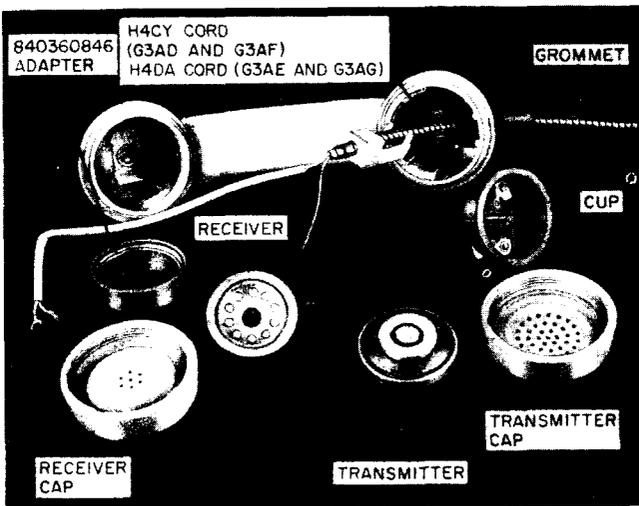

Fig. 5—G3AD, G3AE, G3AF, and G3AG Handsets
**Note 1:** The G3AH and G3AK handsets are equipped with an adapter (Fig. 5) and LA2-type receiver unit.